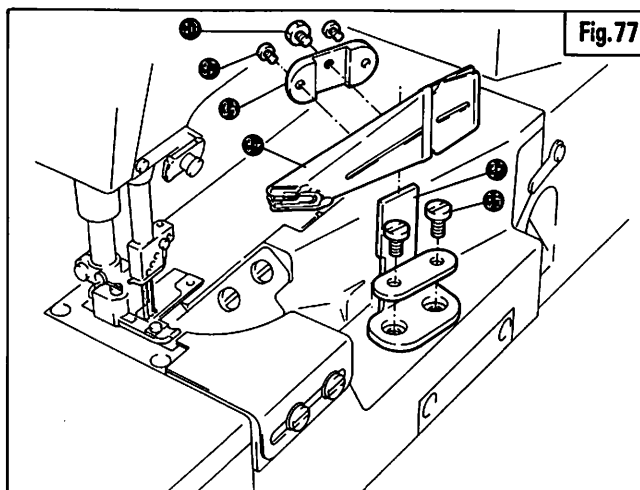

Fig.77
Refer to Fig.77 and set Tape Binder ④ for W562-02 (W542-02).
1. Attach Bracket ① on the front cover with Screws ②.
2. Attach Bracket ③ on Binder ④ with Screws ⑤.
3. Insert Binder ④ into Bracket ①. Set Binder ④ in a correct height with Screw ⑥.